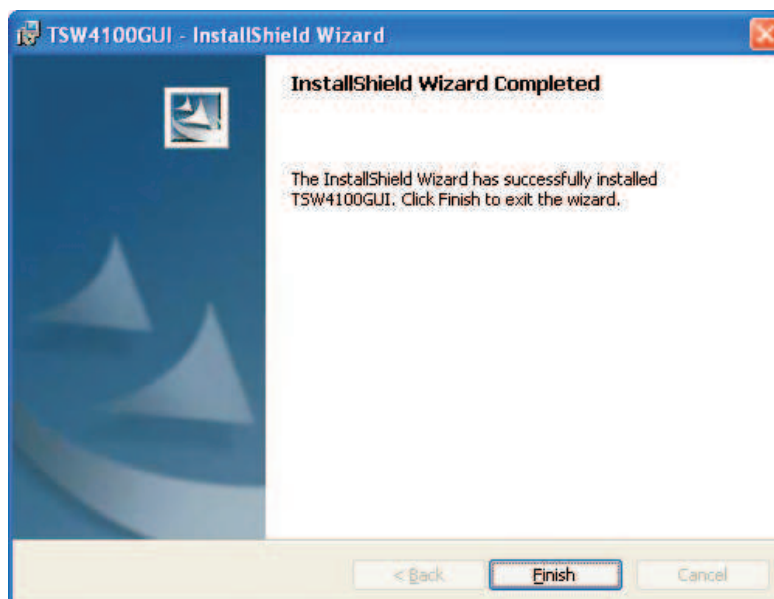

Figure 13. InstallShield Wizard Completed
6. Click *Finish* once the InstallShield Wizard Completed screen (Figure 13) displays.